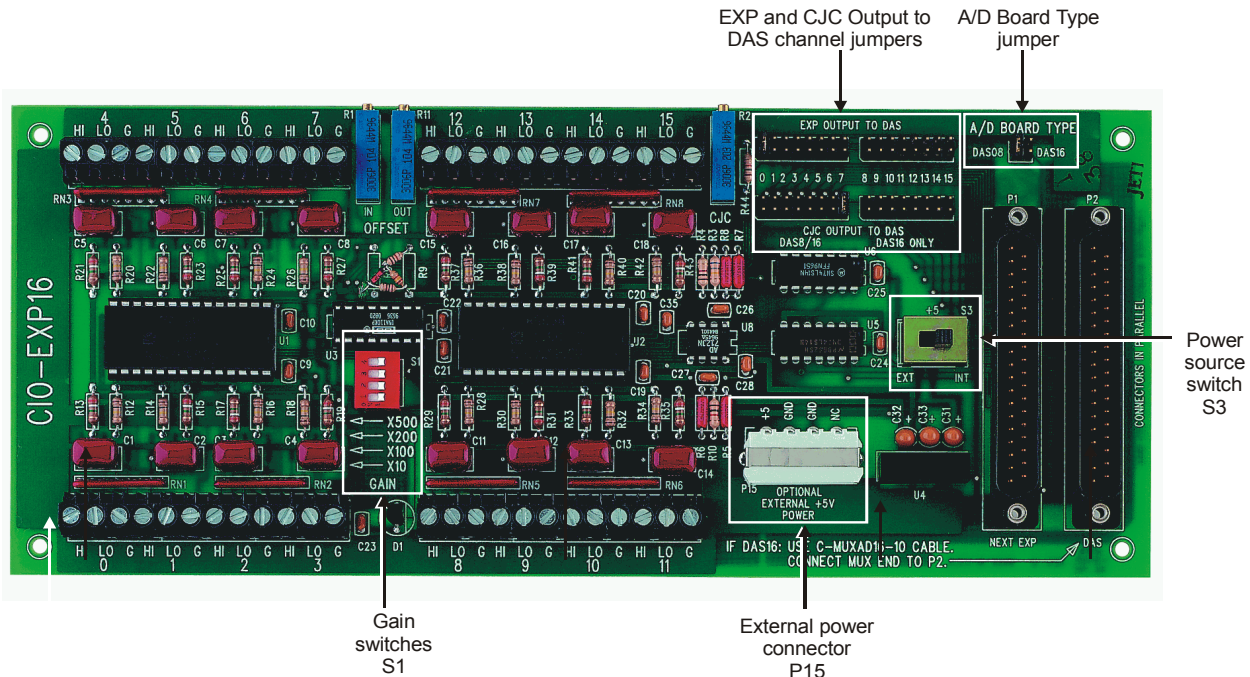

Figure 3. Switch, jumper, and connector locations
Figure 3 shows the location of the board jumpers, switches, and connectors. The solder bridges are on the under side of the board, and are not shown in the figure.
4. Connect the other end of the power cord to the connector labeled "**OPTIONAL EXTERNAL +5V POWER**" (**P15**) on the CIO-EXP16. This end is keyed also. Refer to Figure 3 for the location of this connector.